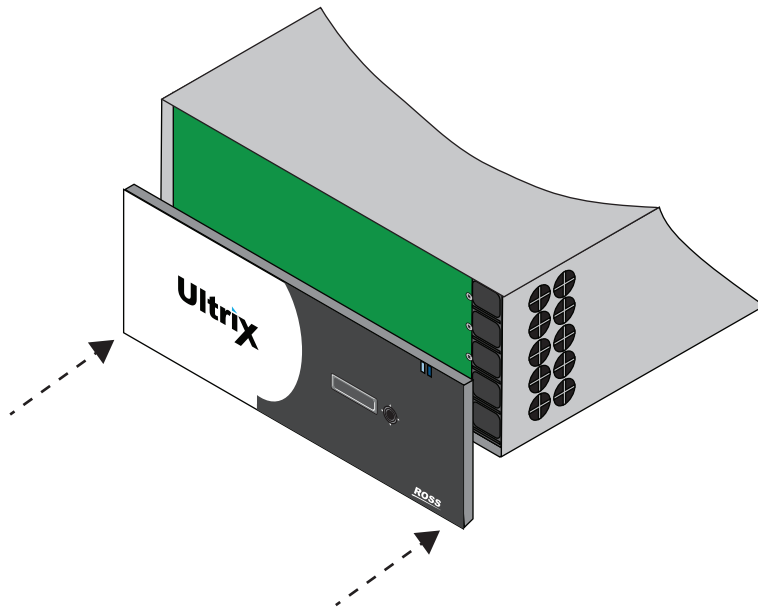

Figure 27 ULTRIX-FR5 — Aligning the Door to the Chassis
- the corner with the Ross logo is in your right hand. (**Figure 27**)